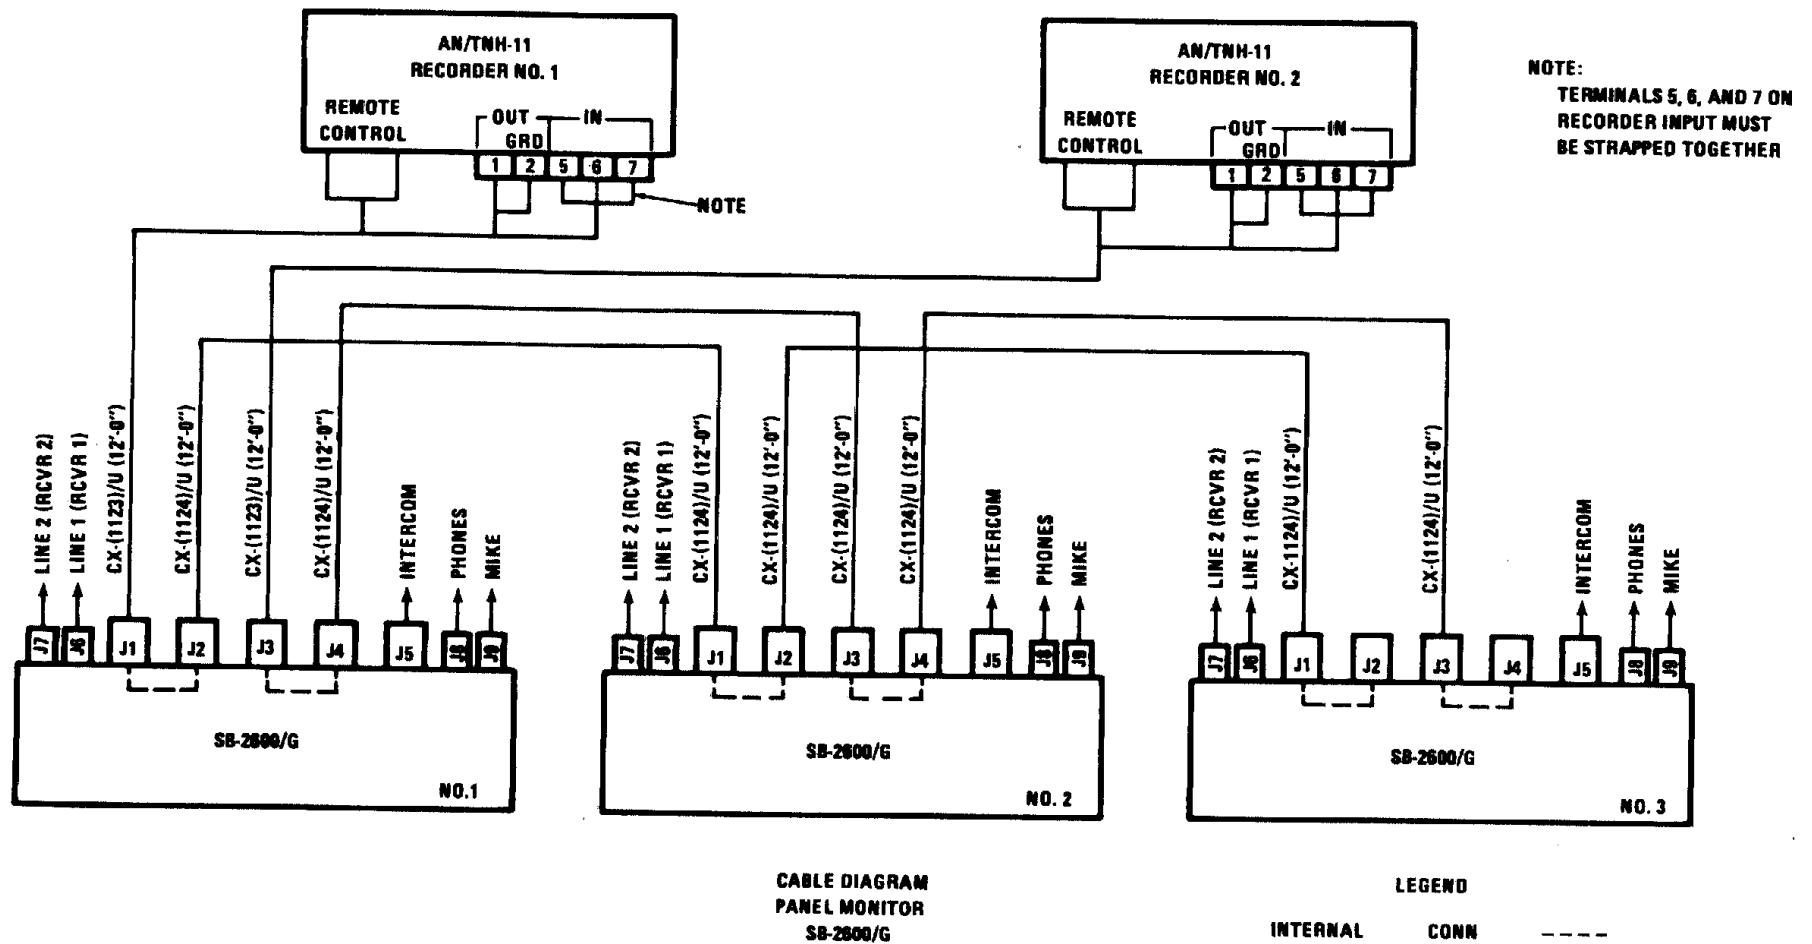

Figure 7-6. Cable Diagram, Monitor Control Panel SB-2600/G
(1) The recorder (monitor and control) position is shown in figure 7-6. This cable diagram indicates the proper connector cabling required to perform maintenance functions established with the SB-2600/G.
(2) The wiring diagram for the SB-2600/G is shown in FO-8. This diagram indicates a complete electrical means of performing maintenance on this unit. It consists of power supplies, audio volume compression